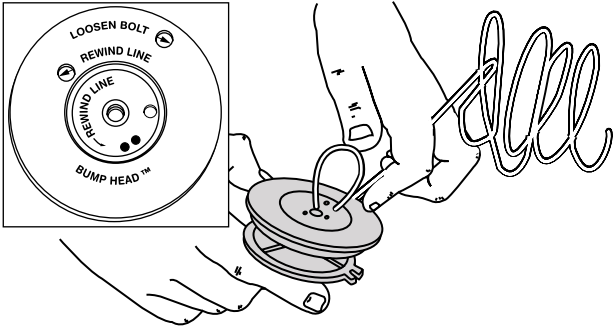

Fig. 35
- Take approximately 25 feet (7.6 m) of new trimming line, loop it into two equal lengths. Insert each end of the line through one of the two holes in the inner reel (Fig. 35). Pull the line through the inner reel so that the loop is as small as possible.